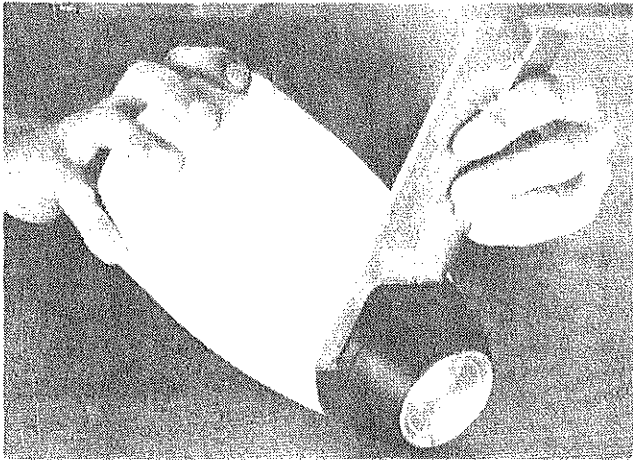

FIG. 40
26. Install RPM-4 shaping air cap and RPM-5 shaping air ring onto shroud (Fig. 40). When screwing the shaping air cap in place, after approx. $2\frac{1}{2}$ turns, the cap will become tight. Using the RPM-419 wrench, turn the cap further. The cap will become loose again and it can then be rotated further. Tighten until the cap bottoms against the shroud.